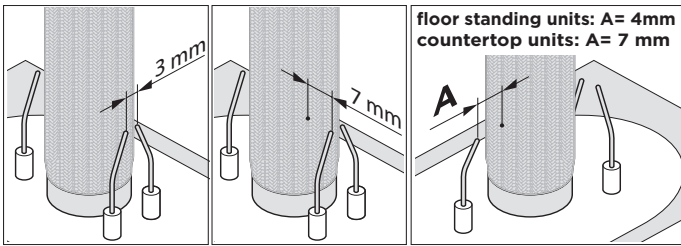

Figure 9
- e) Once you have removed the torch, replace the three electrodes per torch ensuring they are fitted with the proper gap as outlined below (please see **Figure 9** to check the proper electrode distances):